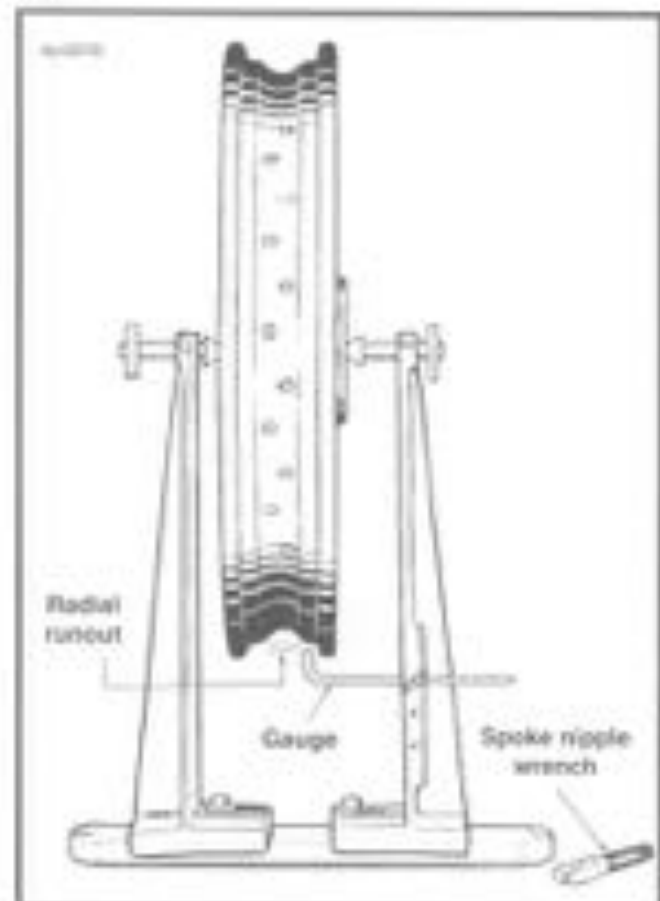

Figure 2-30. Truing Rim Radially
- See Figure 2-30. After rim has been centered sideways it must be checked and trued radially. Adjust truing stand gauge to the rim tire bead seat as shown. The rim should be trued within 0.030 in. (0.76 mm).